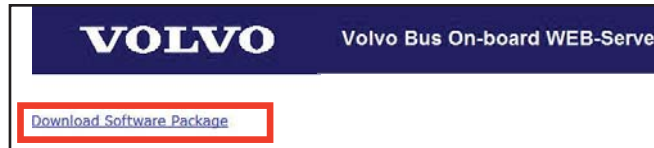

Figure 7 - Typical View of Download Software Package Link
- 1.14. Click on "Download Software Package" (see Figure 7).